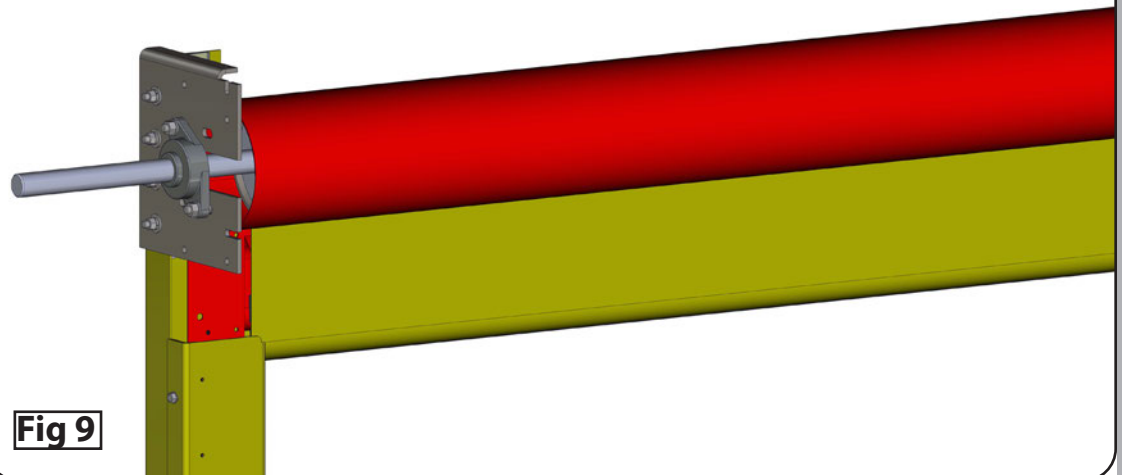

Fig 9
- Before removing the forklift or supporting equipment, reinstall the bearings by sliding them onto the shaft and attaching them to the headplates. See FIG 9.